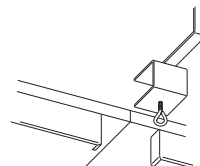

Figure 16
4. Attach net posts and net to table as shown in Figure 16.